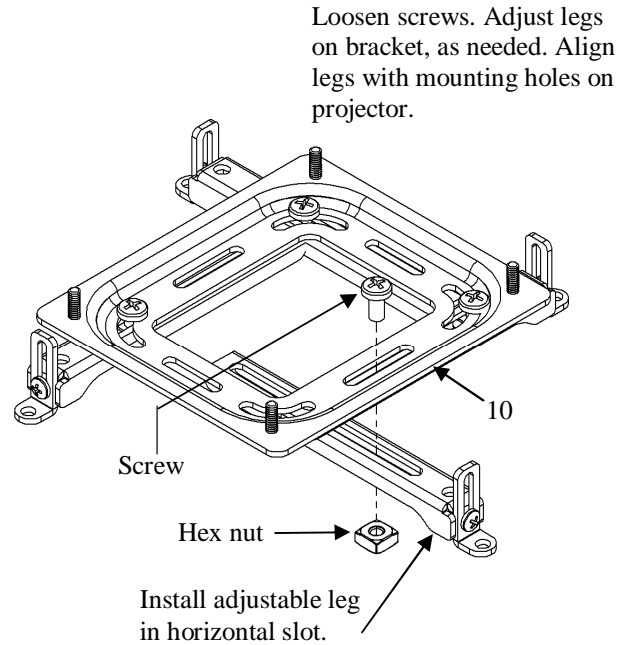
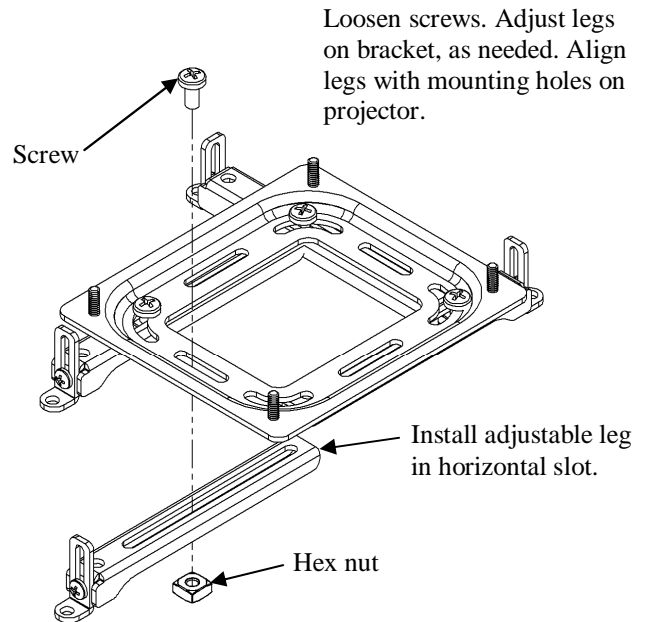

Figure 9. Align the SLBO/SLMO on 3-Hole Projector Using Horizontal Slots (SLBO Shown)
Figure 10. Align the SLBO/SLMO on 3-Hole Projector Using Horizontal Slots (SLBO Shown)
2. Using a Phillips screwdriver, remove two screws, hex nuts, and two adjustable legs from the SLBO/SLMO (10) (see Figure 9).
3. Select the applicable horizontal slot to install the adjustable leg (see Figure 9 and Figure 10).